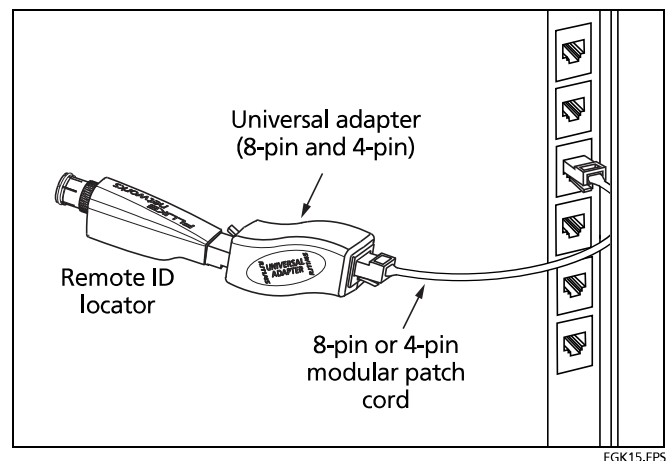

Figure 6. Connecting a Remote ID Locator in a Confined Area or to an RJ11 Jack
To connect a remote ID locator to a modular (RJ) jack in a confined area or to a 4-pin modular jack (RJ11), use the optional universal adapter and a patch cord, as shown in Figure 6.